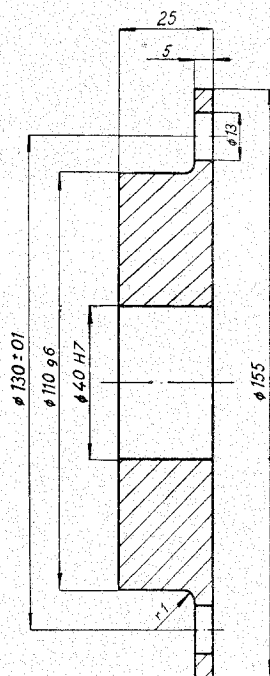
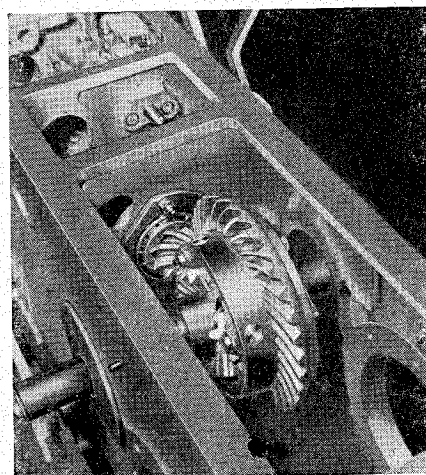

Fig. 50.
Fig. 54.
To facilitate this job, make two plate fixtures as shown in drawing (see Fig. 50); install the fixtures into the apertures taking the bearings of the differential splined shafts, securing each fixture by means of a bolt M 12×20 (thread in head); install the differential shaft into the apertures and fit to it the differential assembly.
7. Install into the bores taking the bearings of the splined differential shafts the plate-shaped fixtures (see Fig. 50). Hold the differential assembly so as to enable the fitting of the differential shaft (see Fig. 54).